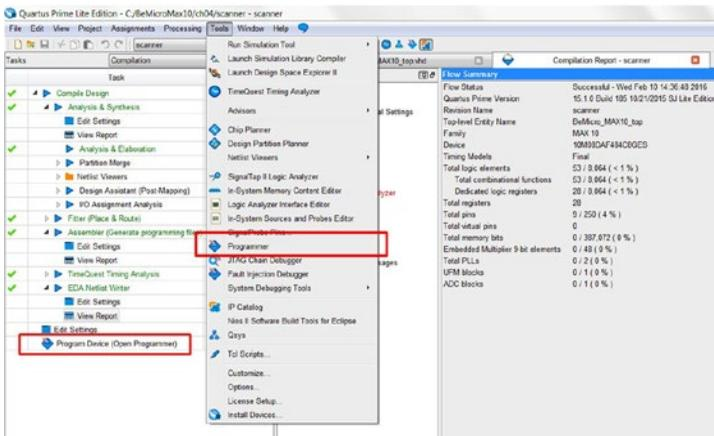

Figure 4-55. Open Altera USB-Blaster Programmer
- Back in Quartus Prime, switch to the Task tab. Check that the Assembler (Generate programming files) task has a green check next to it (If there isn't a green tick, then double-click the Assembler and it should run and change to a green tick after it finishes) as Figure 4-55 and double-click **Program Device (Open Programmer)** to open the Altera programmer (Figure 4-55).